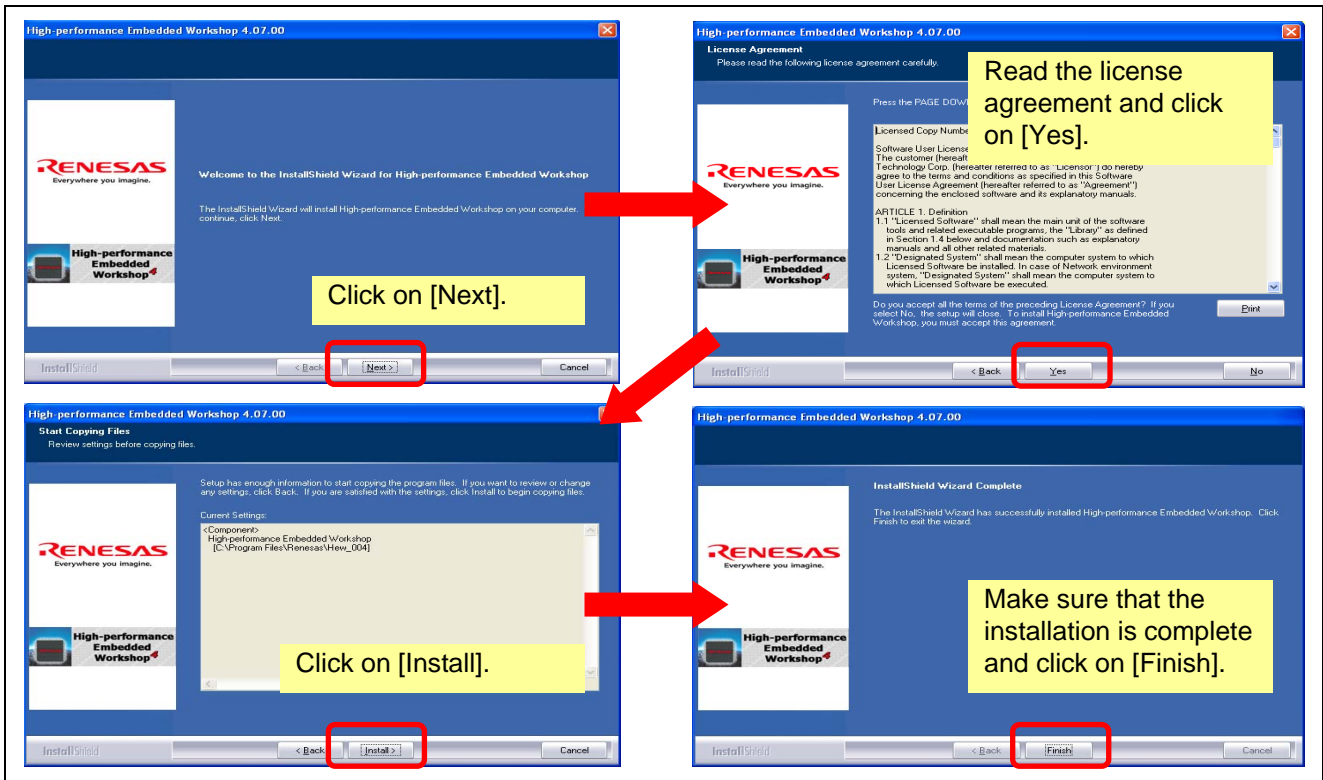

Figure 3.5 Installing the High-performance Embedded Workshop
(6) Installation of the High-performance Embedded Workshop starts automatically. Follow the procedures shown in Figure 3.5.